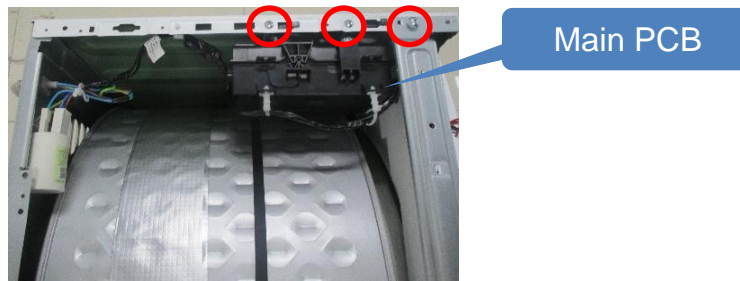

Fig.5
- ① Remove the 3 screws of side plate and replace the main PCB . (Fig.5)